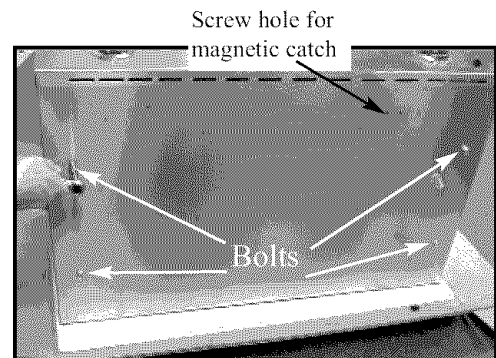

Fig. 5
1. While keeping the Grill on the foam base lean it onto its back. (be sure to hold the hood shut when doing this.) With the Grill on its back, loosen all 4 bolts on the bottom side of the Grill, but do not remove. (See Fig. 5)